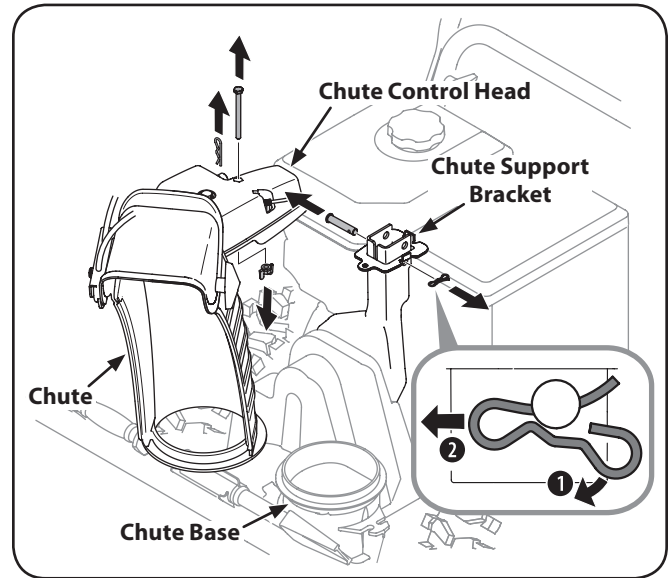

Figure 3-6
1. Remove cotter pin, wing nut and hex screw from chute control head. Remove clevis pin and bow-tie cotter pin from chute support bracket. See Figure 3-6.
8. Finish securing chute control head to chute support bracket with wing nut, clevis pin, and bow-tie cotter pin removed in step 1. See Figure 3-6.